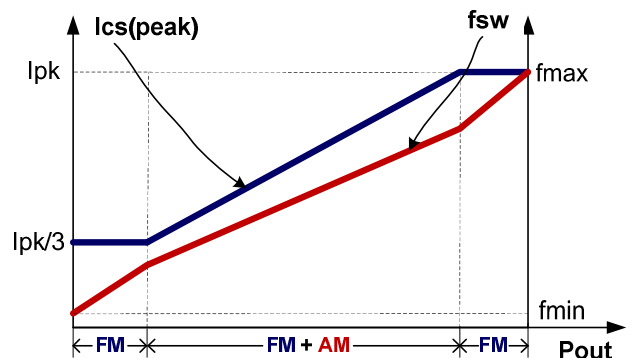

Fig.4
To meet the tight requirement of averaged system efficiency and no load power consumption, a hybrid of frequency modulation (FM) and amplitude modulation (AM) is adopted in DP25135 which is shown in the Fig 4.